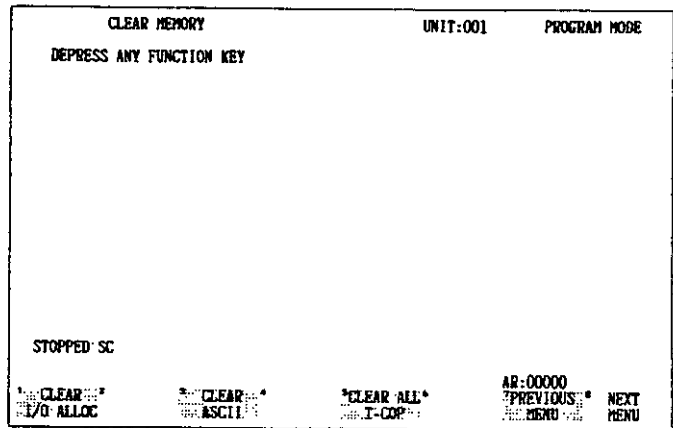

Fig. 3.18
Fig. 3.18 is displayed.
1. **PREVIOUS MENU** selection in Fig. 3.18 calls up the display shown in Fig. 3.16.
2. **PREVIOUS MENU** selection in Fig. 3.19 calls up the display shown in Fig. 3.18.